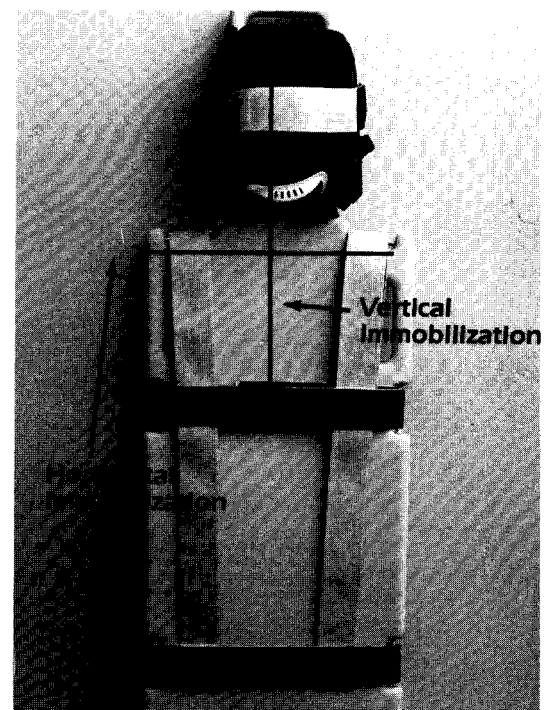

Figure 2.2
- 2.2 Proper shoulder alignment is essential to provide "T" immobilization of the victims spine. This pattern of immobilization prevents shoulder as well as head movement, both of which may cause displacement of the injured spine. (Figure 2.2)